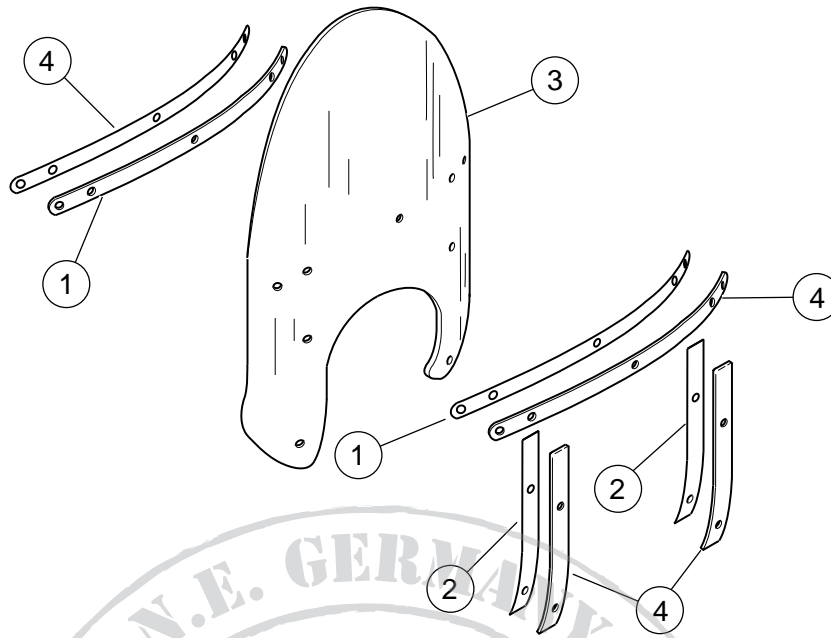

Figure 1. Service Parts: Windshield Kits
See Figure 1 and Table 5.
1. See Figure 1. Remove stock windshield.